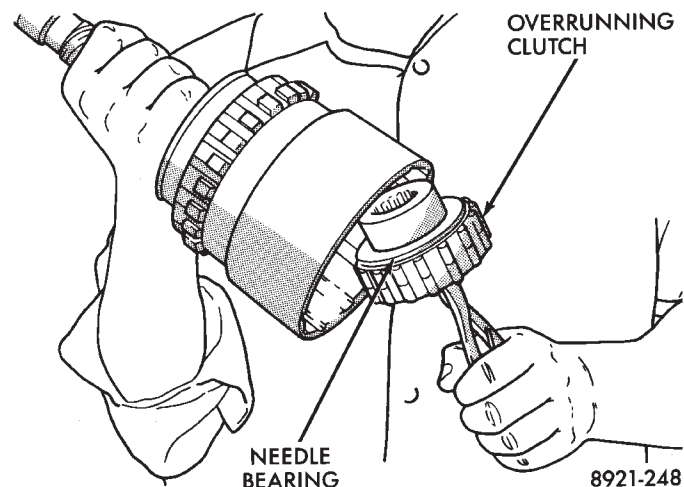

Fig. 212 Overrunning Clutch Assembly Removal/Installation
(3) Remove overrunning clutch assembly with expanding type snap ring pliers (Fig. 212). Insert pliers into clutch hub. Expand pliers to grip hub splines and remove clutch with counterclockwise, twisting motion.